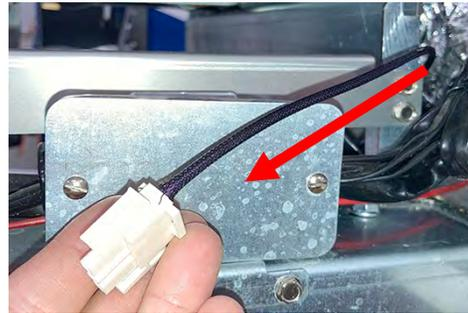

Figure 16
25. Attach the proximity switch 3-pin connector to the 3-pin connector in Figure 16 (see Figure 22).